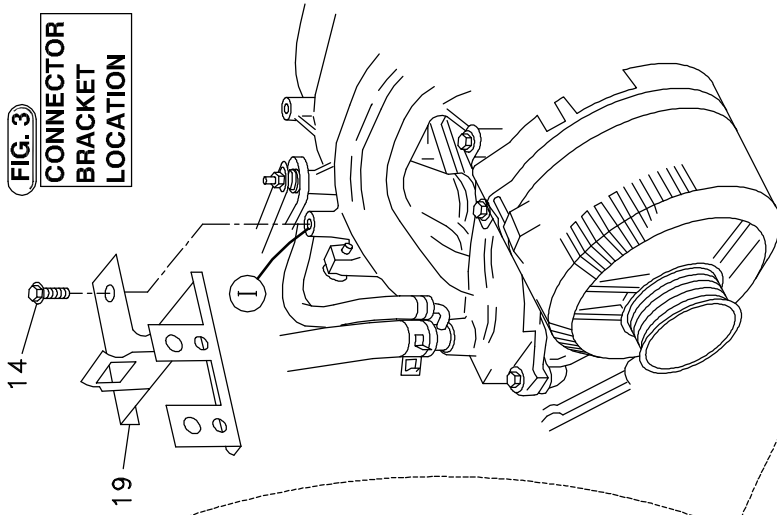

FIG. 6
4. On 2009 and later trucks, remove the OEM bracket over the top of the alternator. Cut the bracket along the dotted line and discard the shaded portion as in Fig. 6. Reinstall this bracket. Place the bridge plate (22) on top of the alternator bracket (Location D) and over to where the removed portion of the OEM bracket was attached (Location E), using the OEM bolts. On the 2006-2008 trucks, only a small corner of the alternator bracket that contacts the pump bracket must be removed.